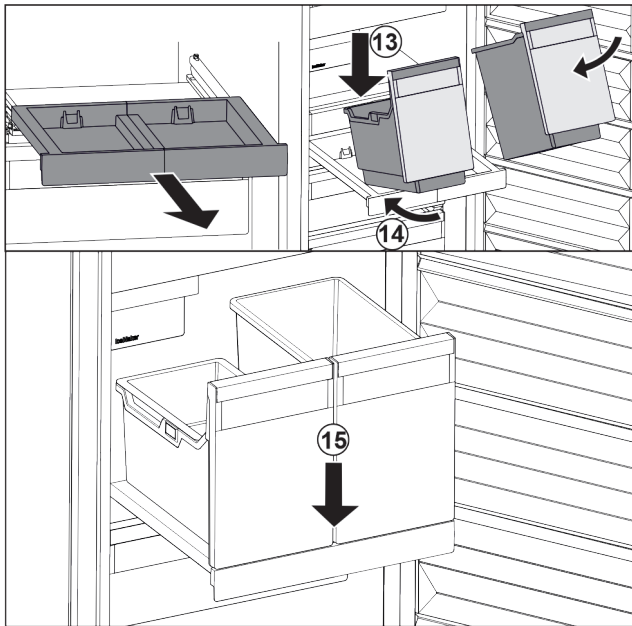

Fig. 31
- ▶ Place the container at an angle on the pull-out board. *Fig. 31 (13)*
- ▶ Slide in the container at an angle to the back. *Fig. 31 (14)*
- ▶ Place container at the front. *Fig. 31 (15)*